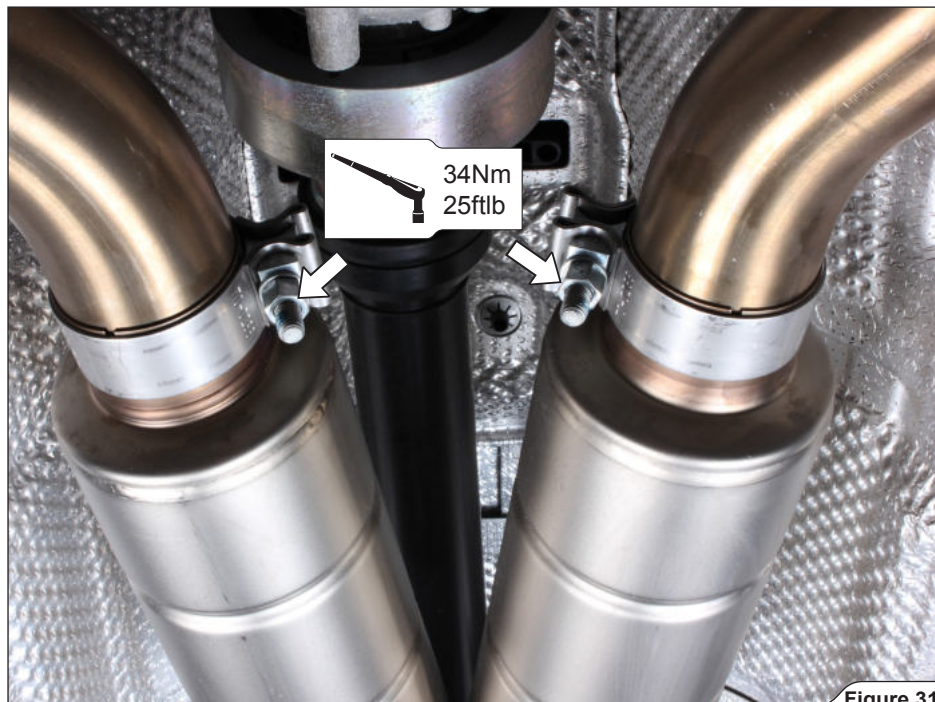

Figure 31
12. Tighten the collector - link pipes joints' clamps to the specified torque (**Figure 31**).